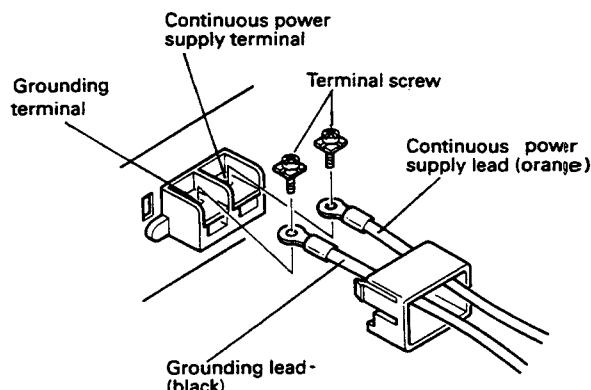

Fig. 10
- Replace the screws removed in step 2 in the terminals and tighten them. (Fig. 10)